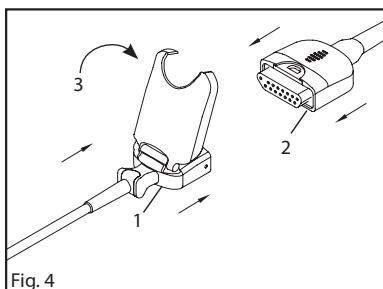
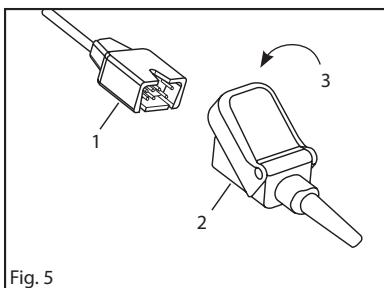

Fig. 4
Fig. 5
1. Refer to **Fig. 4 M-LNCS**, **Fig. 5 LNCS**. Properly orient the sensor connector (1) and insert the sensor connector completely into the patient cable connector (2).
2. Close the protective cover (3).